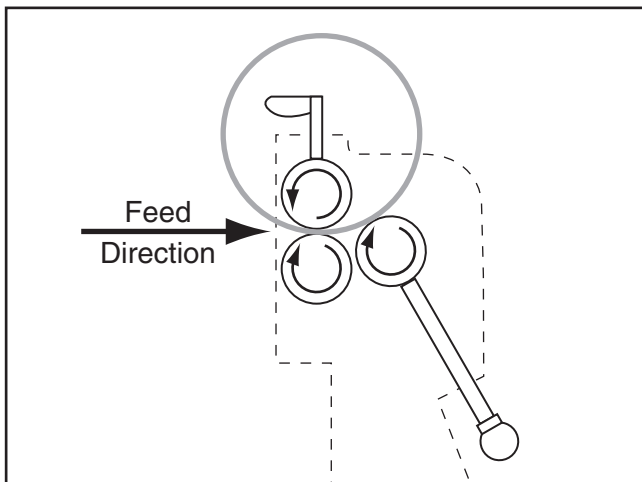

Figure 28. Cylinder completed.
7. Reduce the radius of the curve by raising the rear roller, then repeat **Steps 4–7** until you have produced the desired cylinder (see the illustration in **Figure 28**).